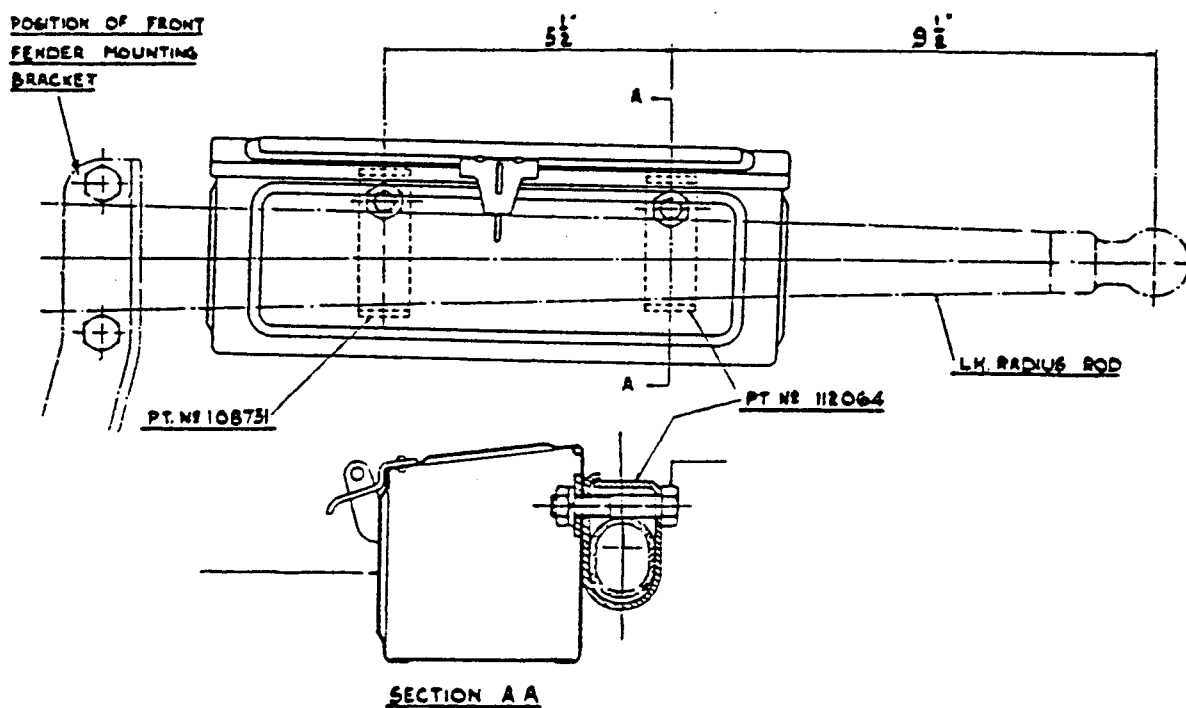

FIG. 25. TOOL BOX REPOSITIONING TO ACCOMMODATE FRONT WHEEL FENDERS — DIESEL ENGINE TRACTORS.
**NOTE :** When fitting fenders to Diesel Engine types it is important for the chamfered clamps to be mounted to the rear, so that clearance is provided for the engine oil filter. Further, the tool box, when situated on the left hand radius rod of Diesel Engine Tractors, will have to be moved rearwards to the position shown in Fig. 25. The existing rear clamp of the tool box is then used to secure the front end and a new clamp Part No. 112064 obtained to suit the thinner section of the radius rod at the rear.